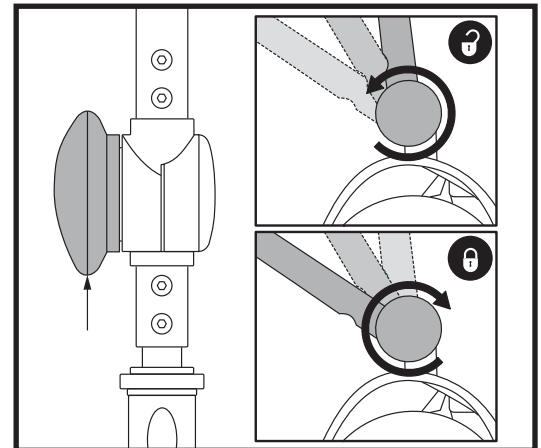

Figure 23. Tiller Adjustment Knob
TILLER ANGLE ADJUSTMENT (See figure 23)
1. With the seat and battery pack removed (see Disassembly Procedures on previous page), lower the tiller and tighten the tiller adjustment knob. **See figure 23.**